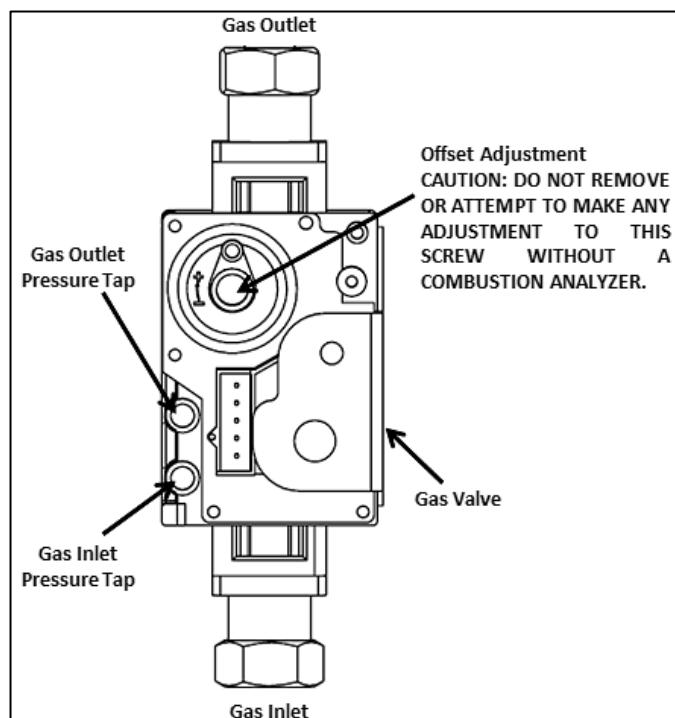

Figure 43 –Gas Valve Detail
NOTE: Refer to Figure 43 when adjusting gas pressure. Loosen the screw before checking the gas inlet pressure.
3. Loosen the gas inlet pressure tap screw three turns with a screwdriver. Connect the manometer to the inlet gas pressure port. See Figure 43.